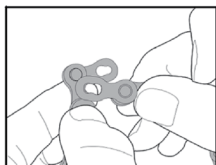

Fig.6
3. Pull the plates apart. (Fig.6)